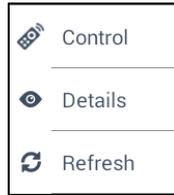

Figure 4.16 Editing the Added DVR/NVR by the Operator
1. Click the added DVR/NVR in the **Device Management** interface. A box pops up as shown in Figure 4.16.